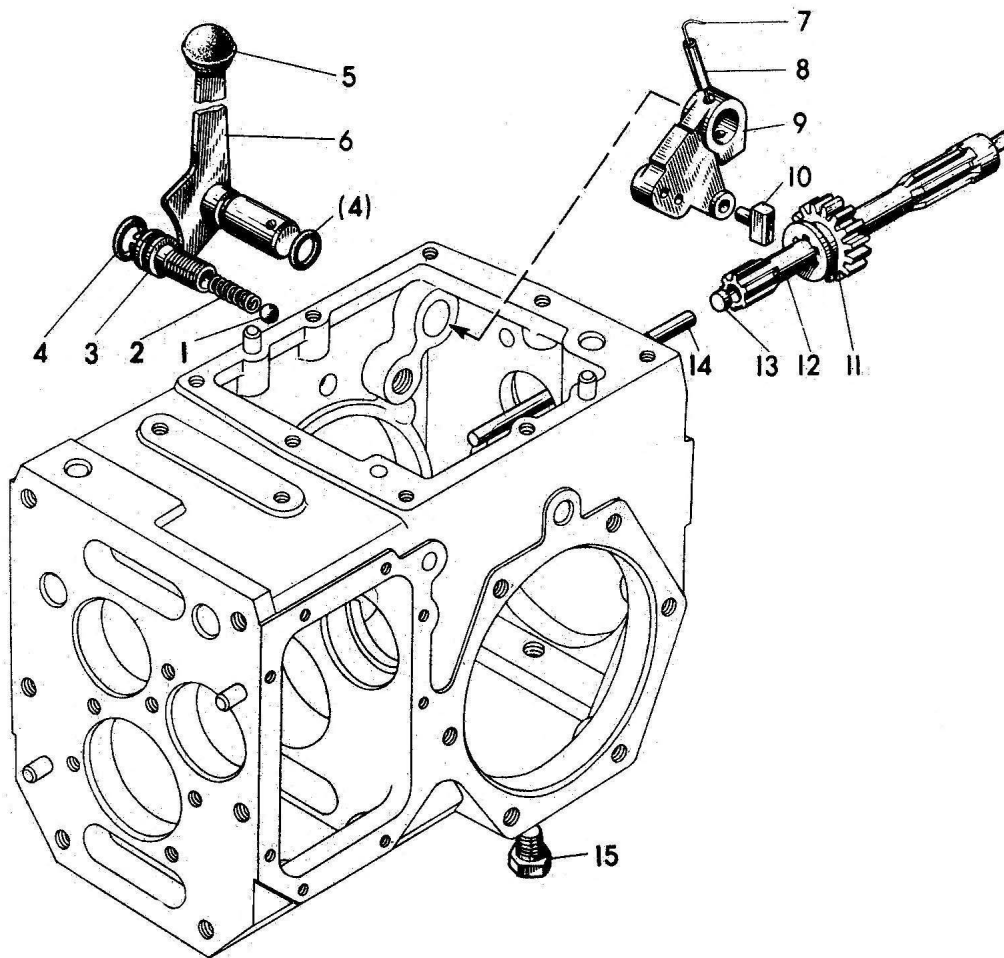

Figure 11 – PTO shaft drive and control
**05-4216. PTO shaft drive and control (figure 11)**